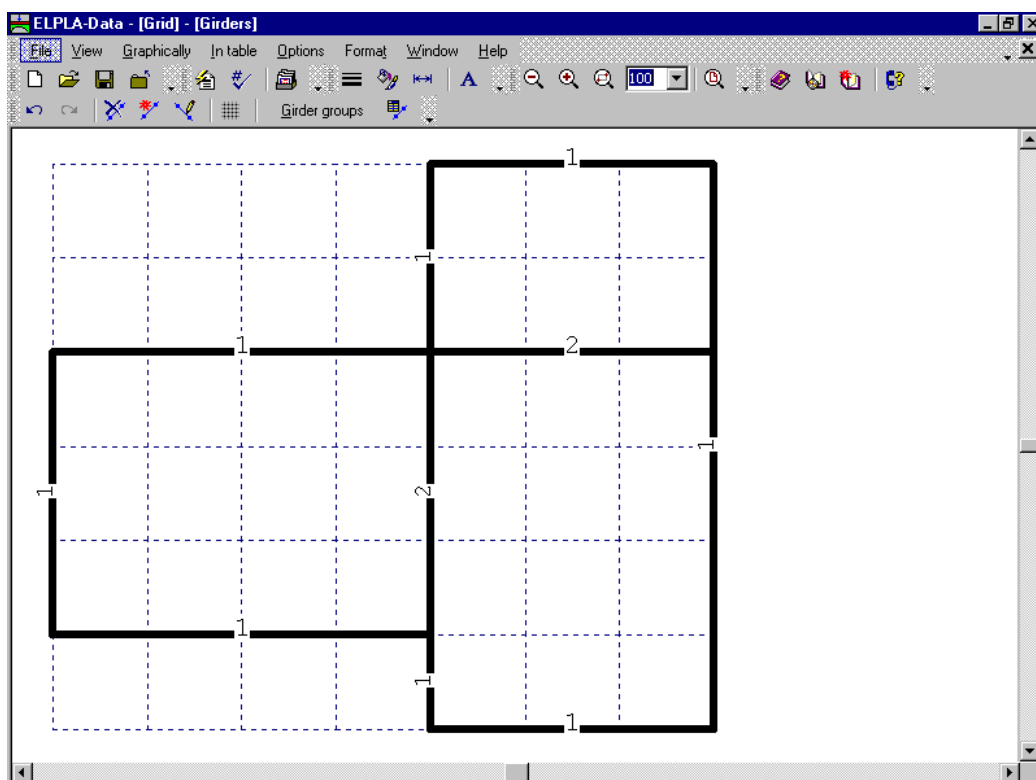

Figure 4-20 Girders are drawn in simple lines
After clicking "OK" in the "Plot parameters" dialog box the girders are drawn as simple lines as shown in Figure 4-20.
- Choose "Select nodes" command from the "Graphically" menu in Figure 4-20. When "Select nodes" command is chosen, the cursor will change from an arrow to a cross hair